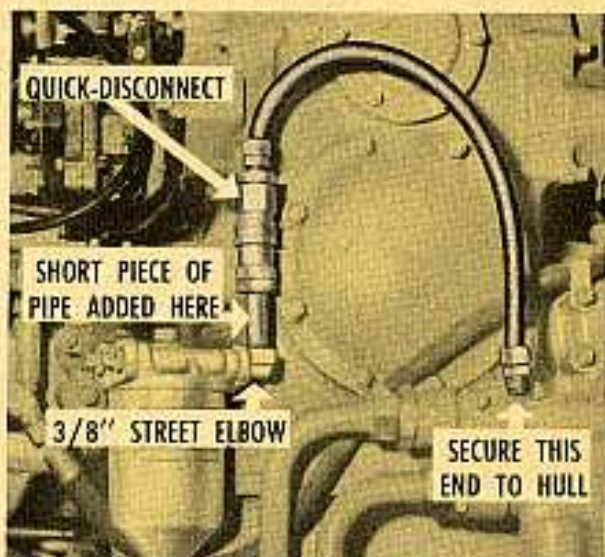

Fig. 2—Avoid battered lines by reversing the quick-disconnect and adding a 3/8" elbow.
The cure comes by taking the fuel-line loose at both ends, putting a 3/8" street elbow in the engine connection, reverse ends of the main fuel-line and connect it (Fig. 2). This puts the quick-disconnect on the engine where it can be taken loose fast and placed out of
2. Remove a lubrication - check plug from the transmission valve-body. Use the plug where you have the lowest oil pressure—the lubricating oil line plug. The illustrations below show the lubricating oil-line plug location—Fig. 1 is for the CD-850 transmission plug; Fig. 2 gives you the CD-500 spot.